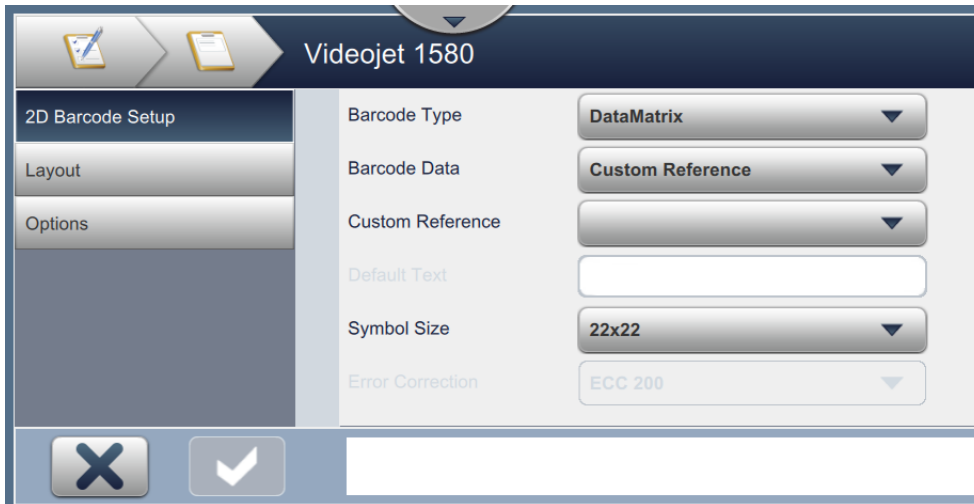

Figure 6-11: 2D Barcode Setup Screen
- The 2D Barcode Setup screen enables the user to select the custom reference as shown in Figure 6-11.